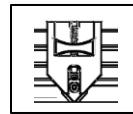

Figure 8
11. **REAR SLITTER:** (figure 8) Used to cut the film when it exits the rear of the laminator.